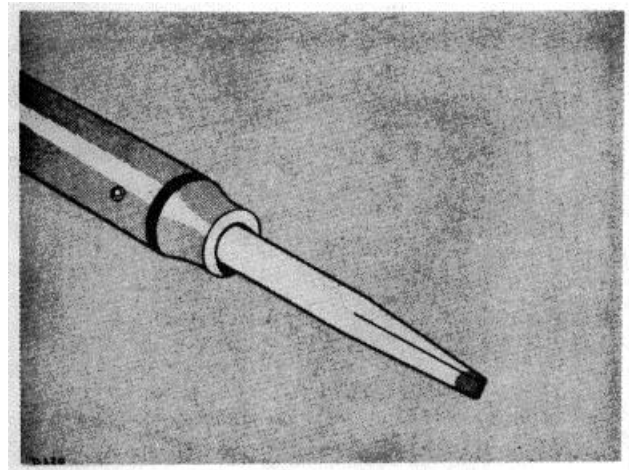

Fig. 5-3. Soldering iron properly shaped and tinned.
Because of the shape of the terminals on the ceramic strips it is advisable to use a wedge-shaped tip on your soldering iron when you are installing or removing parts from the strips. Fig. 5-3 will show you the correct shape for the tip of the soldering iron. Be sure to file smooth all surfaces of the iron which will be tinned. This prevents solder from building up on rough spots where it will quickly oxidize.
2. Prepare the tip of the iron as shown in Fig. 5-3.